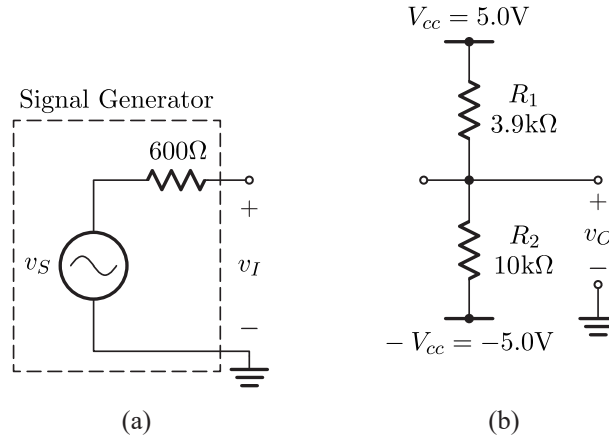
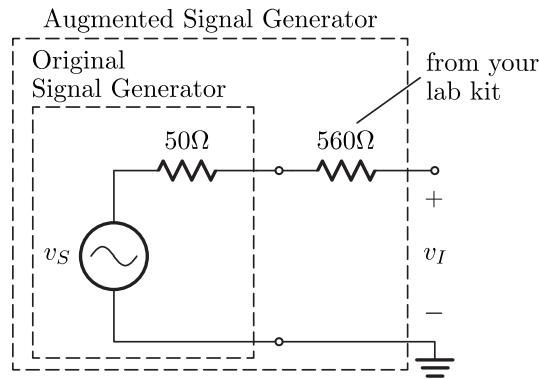

Figure 2: Circuit for Step **E1**.
Figure 3: Implementation of the "augmented" signal generator.
**E1.** Begin by constructing the circuit of **Figure 2**, which consists of two independent sub-circuits, i.e., sub-circuit (a) and sub-circuit(b). Your signal generator (aka the “function generator”) has a built-in (or Thevenin equivalent) resistance of  $50\Omega$ , while we need a source resistance of  $R_s = 600\Omega$ , as **Figure 2** illustrates. Therefore, to achieve a source resistance of  $R_s = 600\Omega$ , place a  $560\Omega$  resistor in series with the output signal of the generator (*yes, it is a bit larger than 600, but that’s okay*). Finally, consider the original signal generator and the additional  $560\Omega$  resistor as the signal
generator that is needed for the circuit of **Figure 2**. **Figure 3** illustrates this concept.
Table 2: Experimental voltage measurements corresponding to Figure 2.
Table 5: Experimental voltage measurements corresponding to Figure 2.